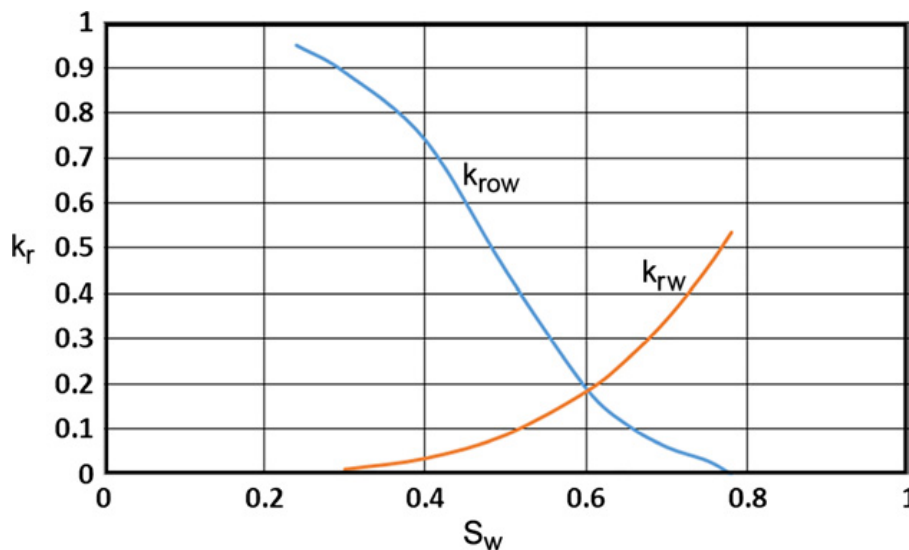

Fig 2. Relative permeability data
8. **A.** Using the relative permeability curve (Fig. 2) given below, plot the fractional flow curve on a graph paper for a dipping reservoir system under the waterflooding. The water injection rate in waterflooding is 1000 bbl/day. The oil viscosity is considered constant at 1 cP. Calculate the fractional flow curve for the reservoir dip angles of 10° and 20°, assuming
B. Explain the variation in the relative permeability curves of oil and water with respect to water saturation in the **Fig. 2** given above? Provide the values of the residual oil saturations and connate water saturations in Fig. 2? (C.O. No. 2) [Application]